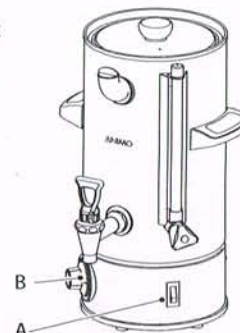

Fig. 5
4. TABLEAU DE COMMANDE (FIG. 5)